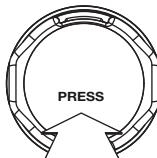

Fig. 19
5. Replace the cutting head cap and press down firmly until both tabs snap back into place. (Fig. 19)